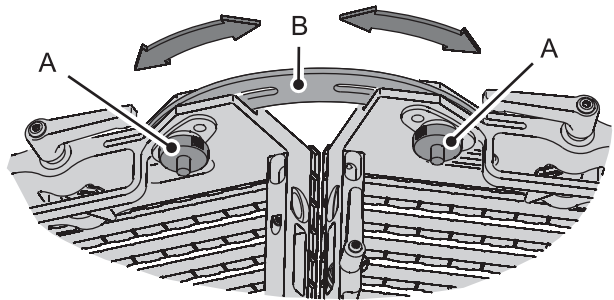

Figure 16: Locking panel angles in a curved array
4. See Figure 16. Install the thumbwheels **A** supplied in the Kit on the top and bottom profiles of each panel, using the supplied locknuts to secure them in place so that they will not drop out of the panel if loosened too much.